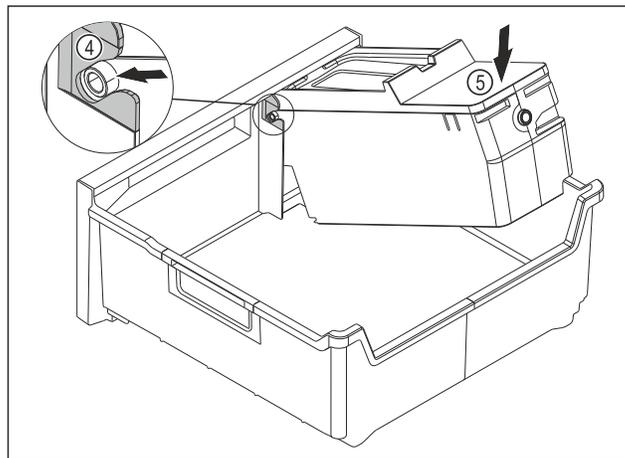

Fig. 158
- ▶ Installing the EasyTwist-Ice body: Insert the axes of the EasyTwist-Ice body into the guides *Fig. 158 (4)*.
- ▶ Press down the EasyTwist-Ice body *Fig. 158 (5)* at the rear.